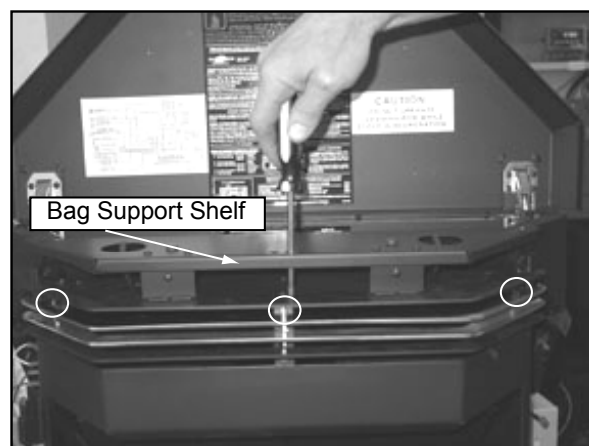

Figure 20.3
4. Use a Phillips screw driver to secure in place. It will be necessary to go through the hole in the bag support shelf to gain access to the screw. **Figure 20.3.**